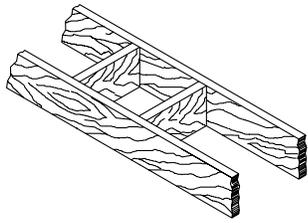

Figure 21 - Roof Framing
1. Cut and frame the holes in the ceiling, floor and roof where the chimney will pass (see **Figure 21**). Use a plumb-bob to line up the center of the holes. The sizes are indicated in **Table 2** for the floor and ceiling holes and **Table 3 (Page 17)** for the roof holes.